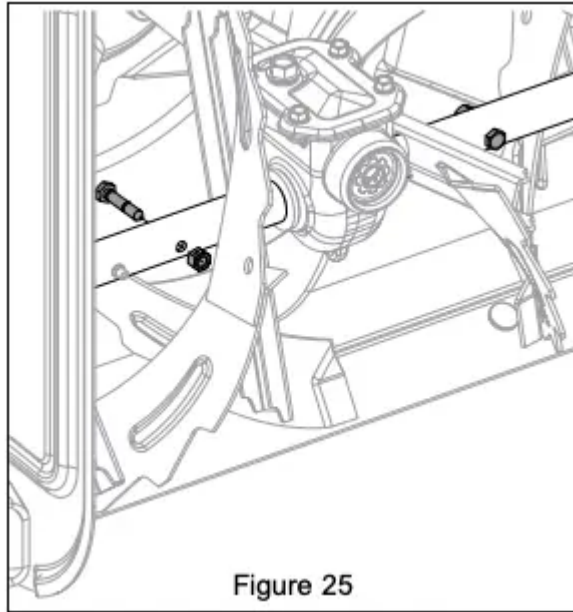

Figure 25
**IMPORTANT:** Ariens recommends using only Ariens OEM shear bolts when replacing shear bolts. See Figure 25.